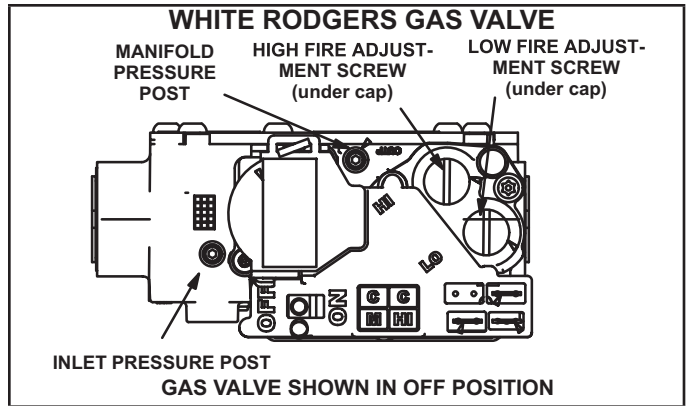

FIGURE 6
- 2 - Remove the access panel. Move the automatic gas valve switch to OFF. See FIGURE 6.
- 6 - Move the switch on the gas valve to OFF. Do not force the switch. See FIGURE 6
An inlet pressure post located on the gas valve provides access to the supply pressure. See FIGURE 6. Back out the 3/32 hex screw one turn, connect a piece of 5/16 tubing and connect to a manometer to measure supply pressure. Check supply pressure with unit on high fire. On multiple unit installations, check each unit separately and with other units operating. See table 2 for supply line pressure. Following supply pressure test, shut off unit, remove manometer and tighten pressure post hex screw
A manifold pressure post located on the gas valve provides access to the manifold pressure. See FIGURE 6. Back out the 3/32 hex screw one turn, connect a piece of 5/16 tubing and connect to a manometer to measure manifold pressure.
- 1 - Connect test gauge to manifold pressure tap (FIGURE 6) on gas valve.
- 4 - If necessary, make adjustments. FIGURE 6 shows location of high fire and low fire adjustment screws.